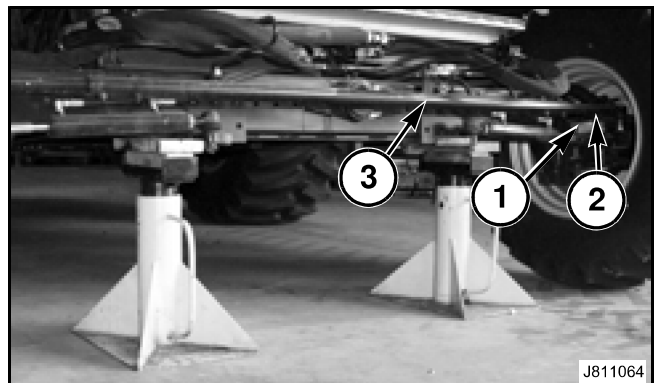

FIG. 100
FIG. 100: Right-Hand - Remove the two capscrews, two clamp washers, two spacers and the lock nuts (1) locking the adjustable link rod (2) in the outer tie rod tube (3).